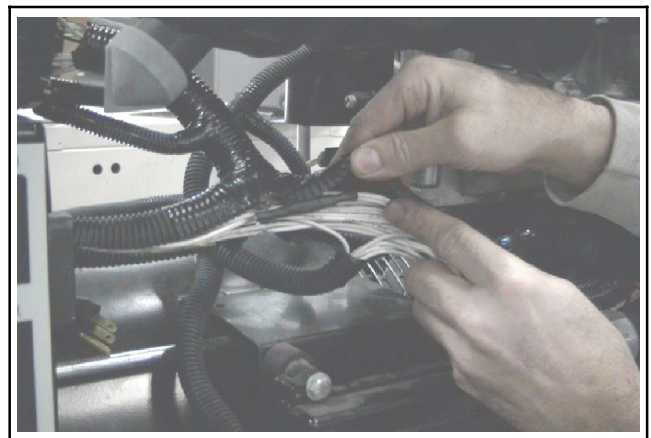

Figure 12 Feed the Harness (GM64331) Into the Junction Box
12. Feed the harness (GM64331) through the plastic conduit from the ECM 56-pin connector and into the junction box. See Figure 12.